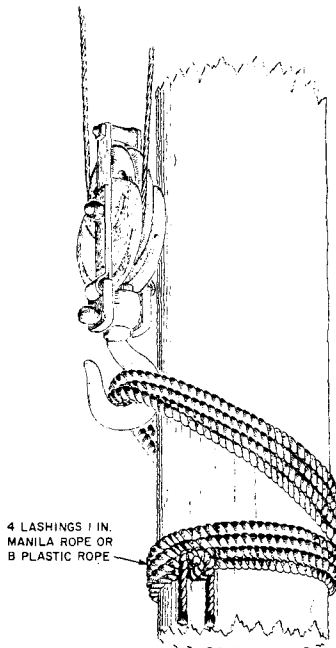

Fig. 4—Rope Lashing
3.06 Manila rope or B plastic rope can also be used for attaching the pulling line to the pole as shown in Fig. 4.